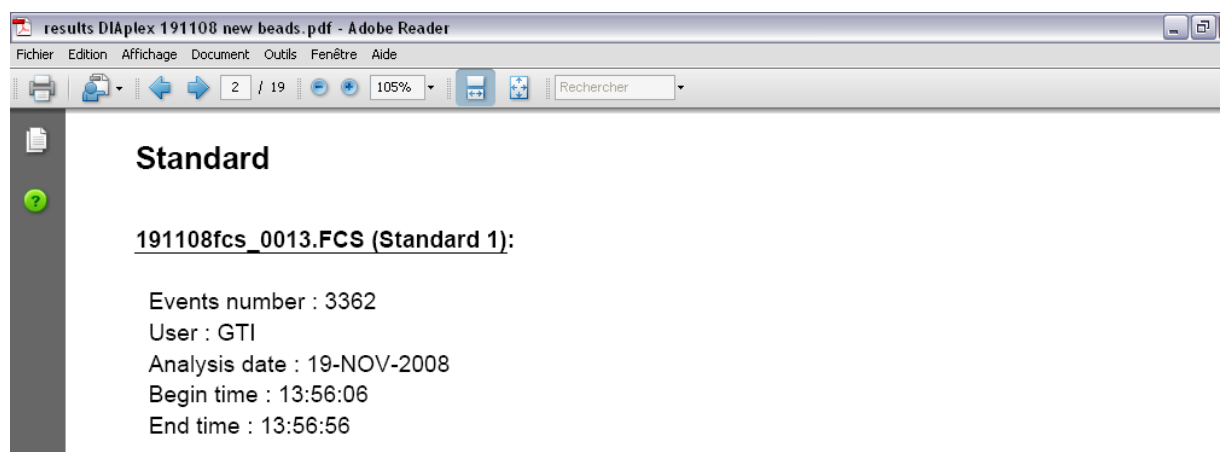

Figure 21: Standard file information
- Experimental samples information:** Information about the FCS files chosen in step 3 - same information as in standard files information (See Figure 21).